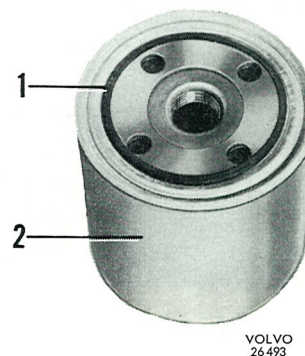

Fig. 2-54. Oil filter ready for fitting
2. Coat the rubber gasket (1, Fig. 2-54) of the new filter with oil and make sure that the contact surface for the oil filter is free from dirt. By smearing it with oil, the gasket slides into better contact with the sealing surface. Screw on the filter by hand until it just touches the cylinder block.